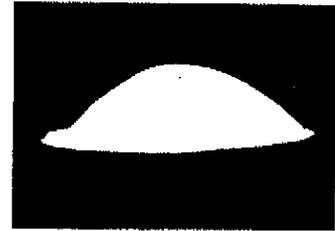

Fig. 5: “Floodable” materials are very fine and dry.
2. **Floodable** – The particles are very fine and dry. They easily aerate so they are said to be “Floodable”. The name calls attention to their being able to flow uncontrolled unless the proper precautionary measures are taken. A particle size smaller than 100 mesh and less than 2% moisture content more specifically describes this kind of bulk solid. Hydrated lime, fly ash, kaolin clay, pesticides, virtually all the different “dusts” from collectors, acetylene black, stucco, bentonite, talcum powder, diatomaceous earth, cement, ink dyes, carbon black, powdered milk, dextrose, powdered sugar, or anything similar, exemplify bulk solids that are “Floodable”. (See Figure 5.)